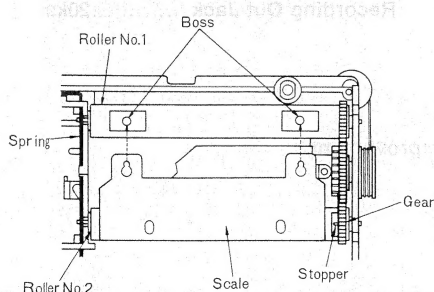

Fig. 5
3. Remove spring for the rollers, as shown in fig. 5.
6. Set roller no. 1 at the position as shown in fig. 5.
8. Set spring at the position as shown in fig. 5.
9. Hook the dial scale on the boss of the roller no. 1, as shown in fig. 5.
10. Confirm that the stopper of the gear should be located at the position, as shown in fig. 5.